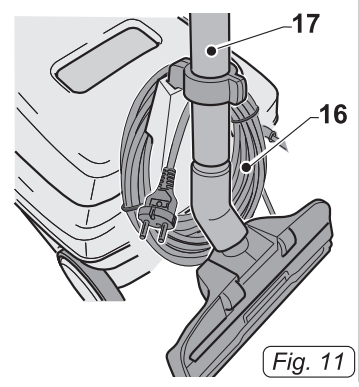

Fig. 11
- Wind up the cable (16 Fig.11) and hook it into position then attach the suction tube (17 Fig.11) in position